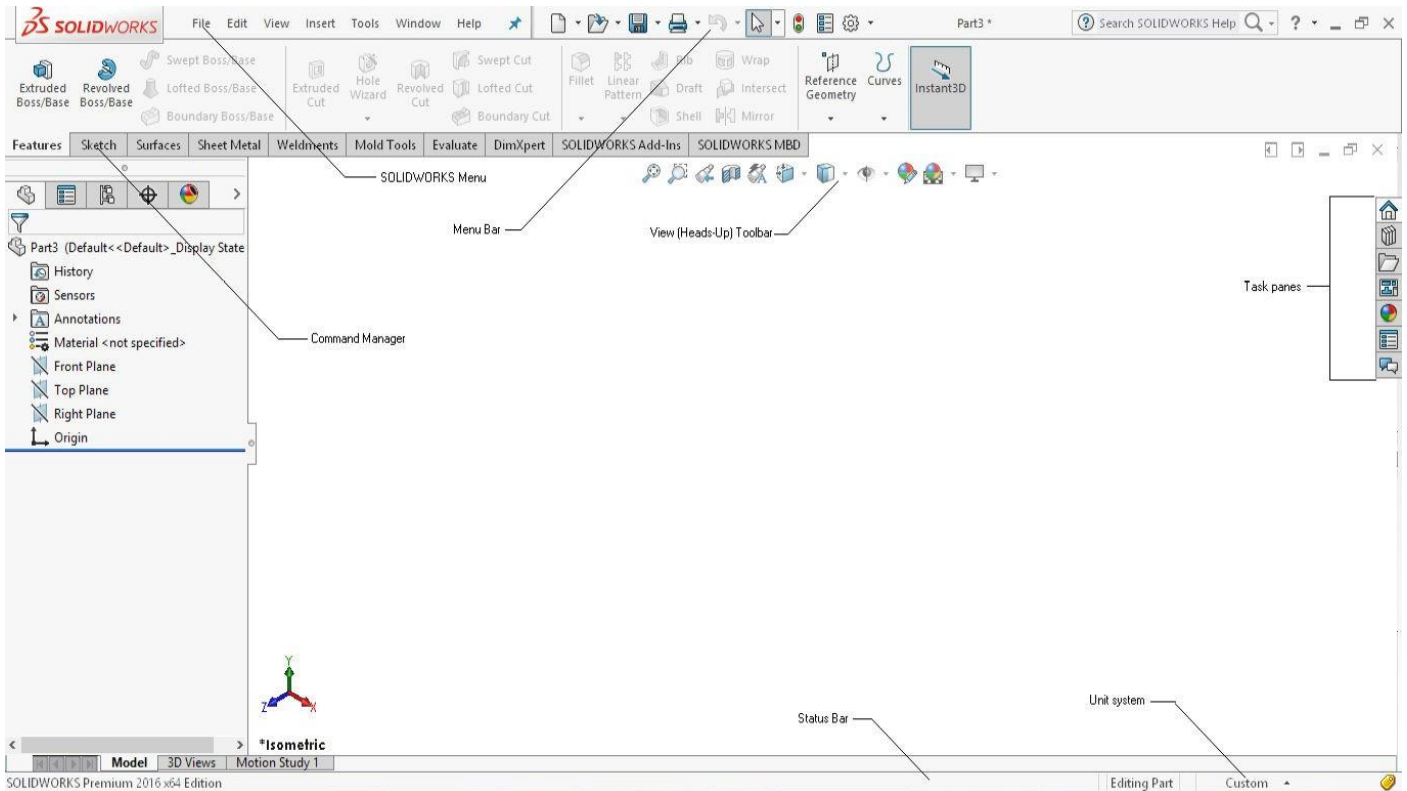
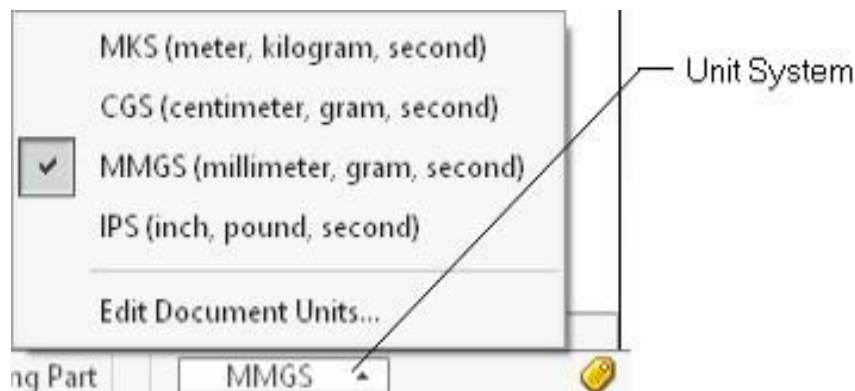

Figure 2-11 *The initial interface displayed on invoking the **Part** document*
Figure 2-14 The flyout showing the currently selected unit system
2. Make sure that the **Part** button is chosen in the **New SOLIDWORKS Document** dialog box. Next, choose the **OK** button to invoke the **Part** mode, refer to Figure 2-11.
*In SOLIDWORKS, you can also change the units for the current document by using the **Unit system** that is located towards right in the Status Bar, refer to Figure 2-11. To do so, click on the **Unit system**; a flyout will be displayed with a tick mark on the left of the activated unit system, refer to Figure 2-14. Now, you can select the required unit system for the activated unit system from this flyout. You can also invoke the **Document Properties-Units** dialog box by selecting the **Edit Document Units** from this flyout.*